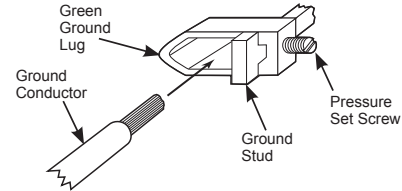

Figure 4. Ground Wire Connection
9. Attach green ground conductor to green ground lug labeled "G". Back out set screw part way. Insert conductor between ground stud and "V" shaped end of green ground lug (see Figure 4). Do not put conductor under pressure set screw. Tighten pressure set screw to 12-14 in./lb.